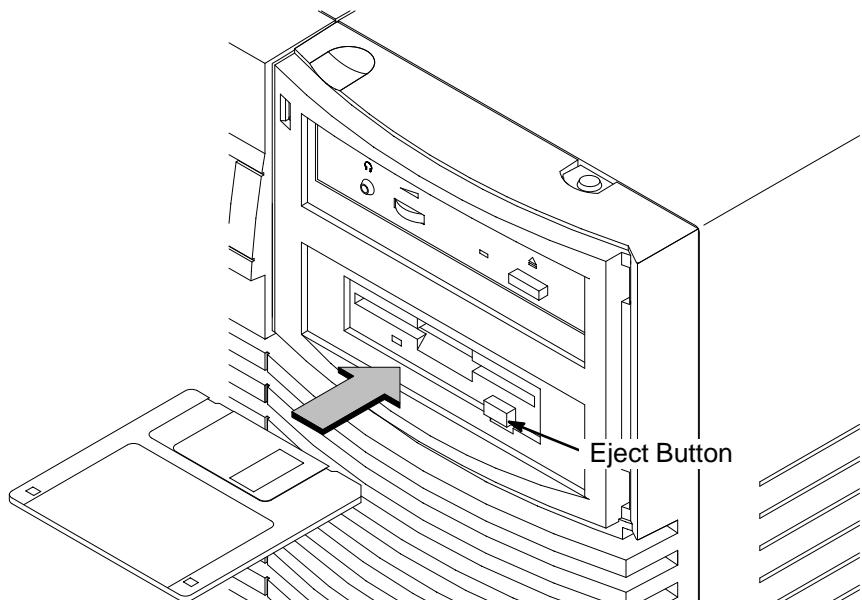

Figure 5–2. Inserting and Removing a Floppy Diskette
3. To remove the diskette, push the eject button (see Figure 5–2), then take out the diskette.